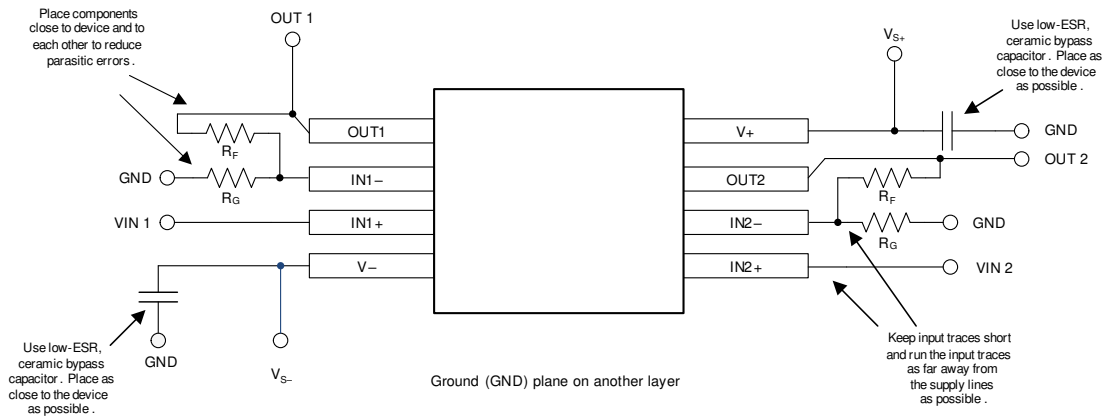

Figure 7-4. Layout Example
- Place the external components as close to the device as possible, as shown in Figure 7-4. Keeping R_F and R_G close to the inverting input minimizes parasitic capacitance.